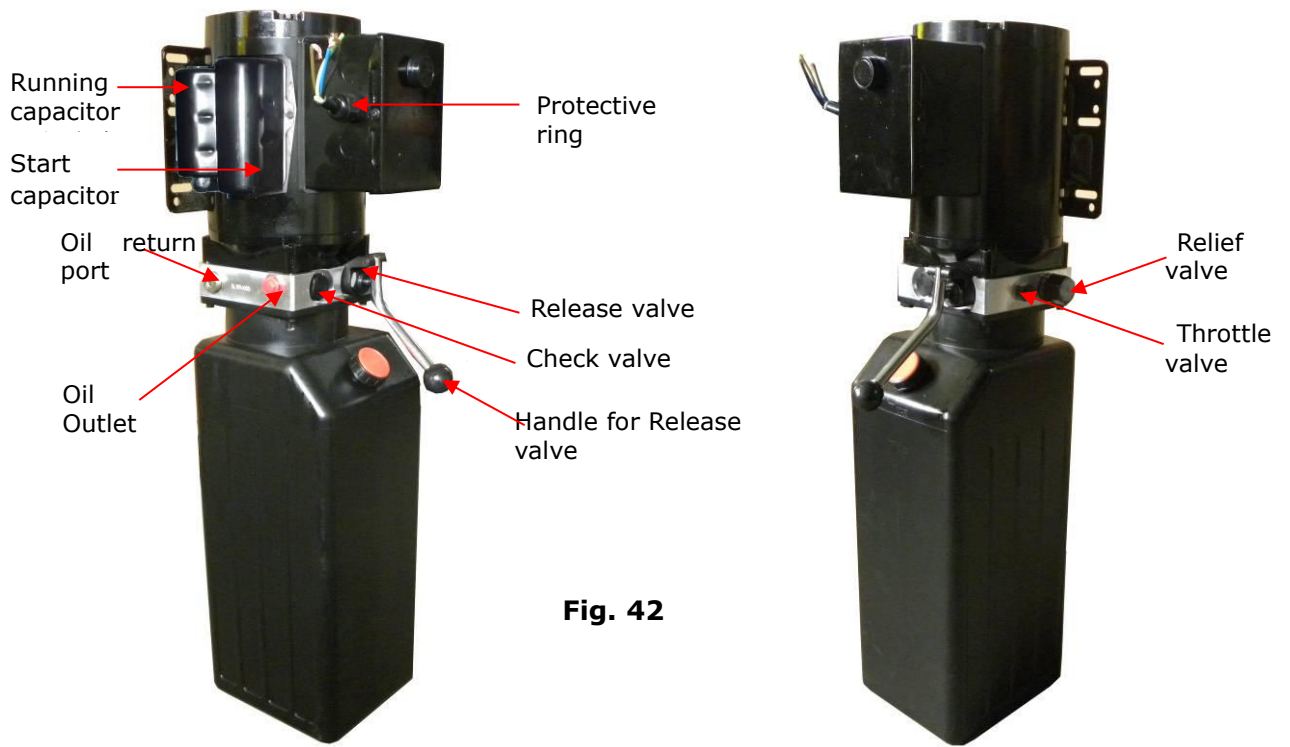

Fig. 42
b. PEAK manual power unit, 220V/50HZ, Single phase (See Fig. 42)